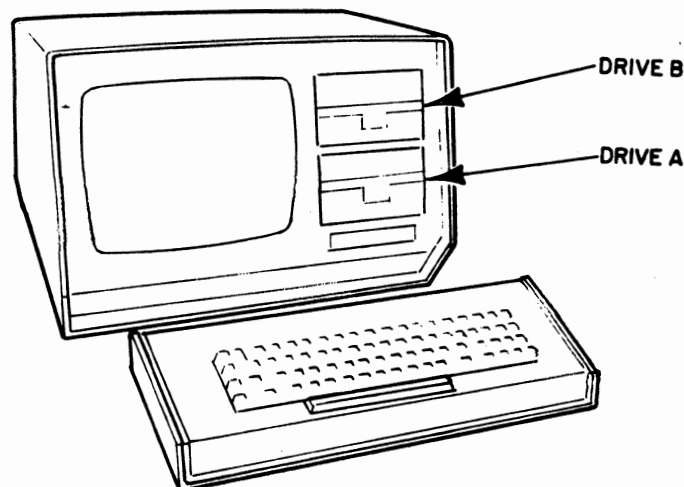

FIGURE 1-1. DATAMAC 800 COMPONENT CONNECTION
- If visual inspection indicates no damage, connect components as shown in Figure 1-1.